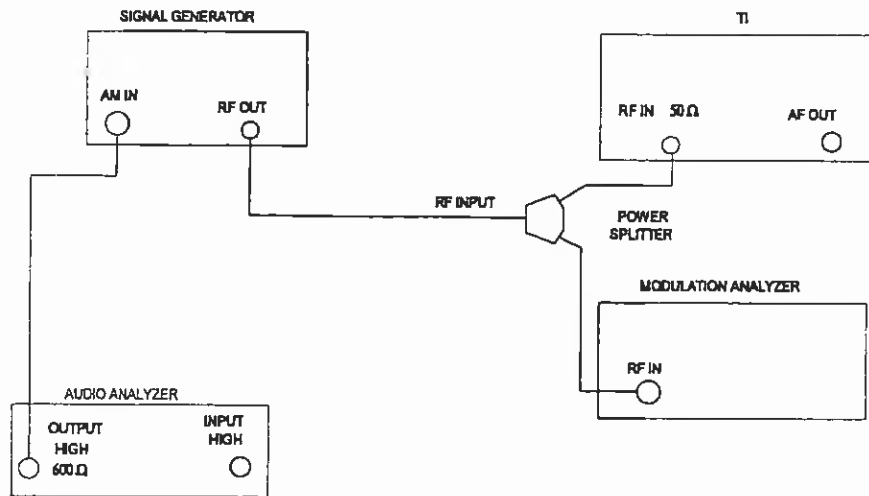

Figure 5.
4.11.1 Connect the equipment as shown in Figure 5.